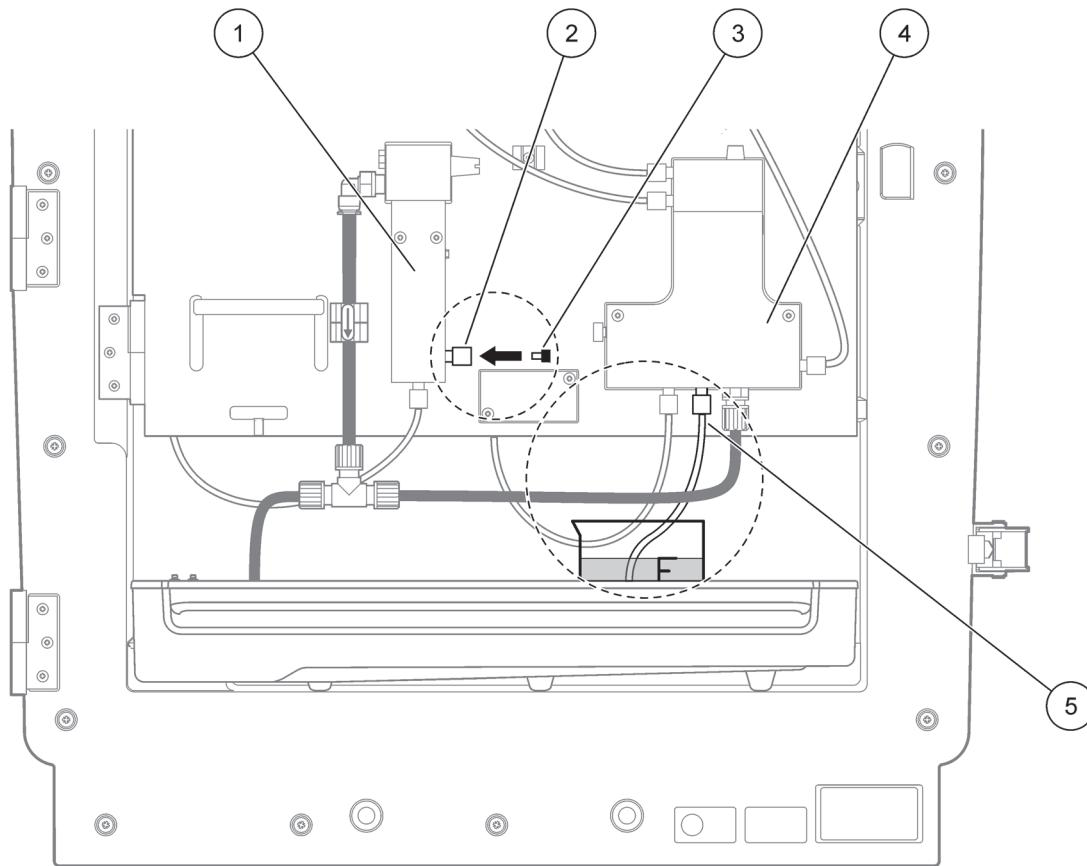

Figure 1 Modification of PHOSPHAX sc
7. Select Enter to modify the analyzer (Figure 1 on page 14):
- a. Unscrew the fitting (item 2) of the sample tube (item 5) which connects the overflow vessel (item 1) and the valve block (item 4) at the overflow vessel.
- b. Screw in the blind plug (item 3) in the thread of the overflow vessel (item 1) and insert the sample tube in a beaker (for example 150 mL) with standard solution for the validation.